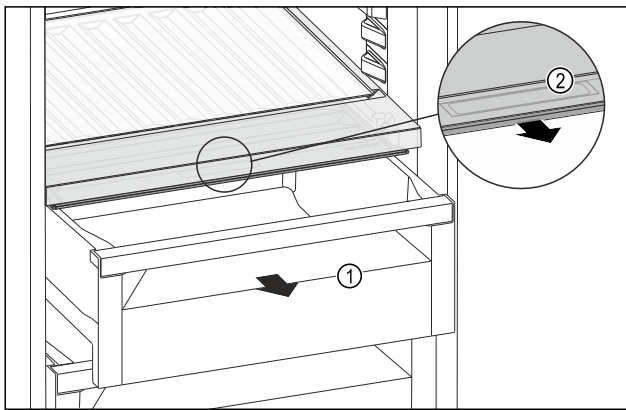

Fig. 173
- ▶ Pull out the drawer Fig. 173 (1).
- ▶ Grasp the recessed grip Fig. 173 (2) on the compartment lid and pull the compartment lid forwards at the same time.